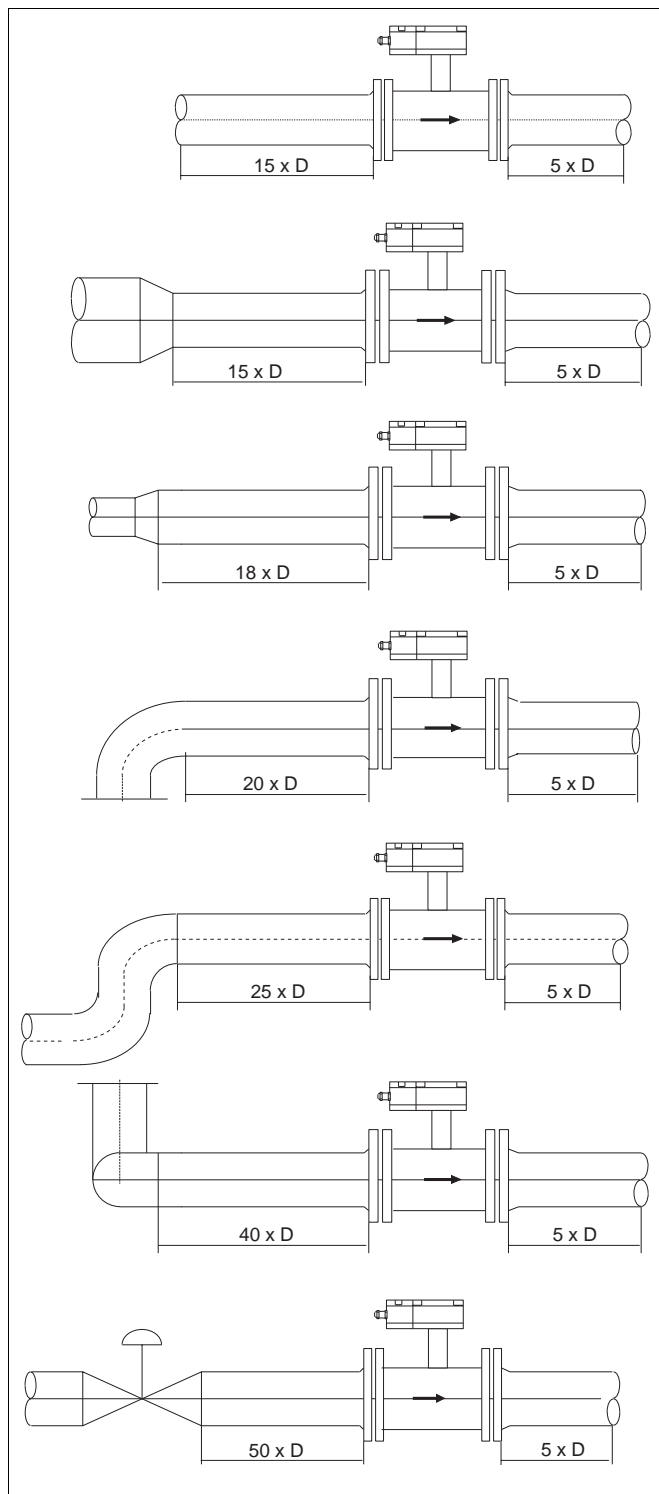

Fig.3 Recommended In- and Outlet Sections
- the recommended in- and outlet sections are utilized (Fig. 3).